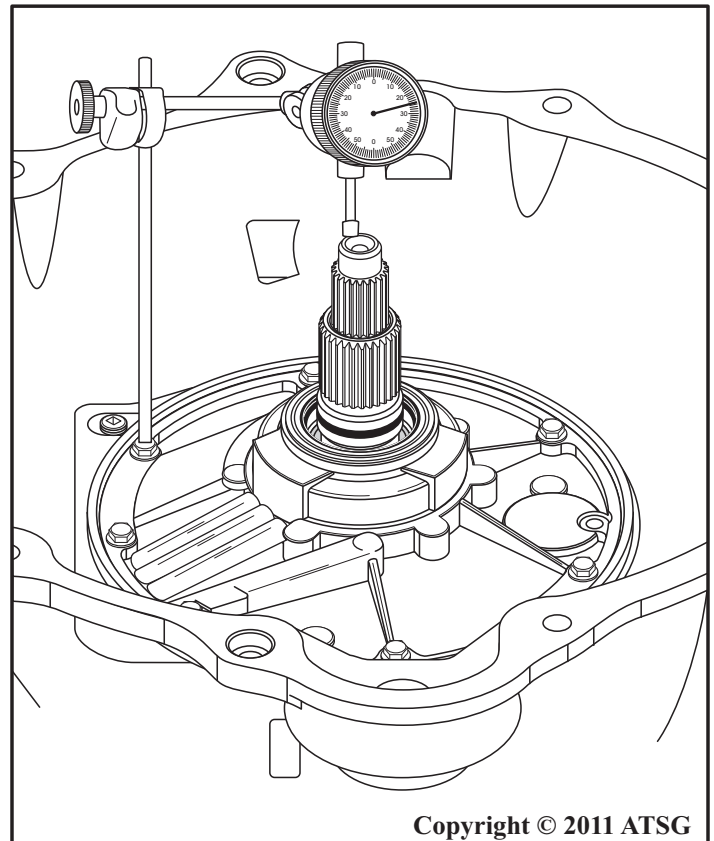

Figure 243
69. Now we can verify the transmission end-play using a dial indicator mounted on input shaft, as shown in Figure 243.
70. Position the dial indicator plunger against end of the input shaft, as shown in Figure 243, and zero dial indicator.